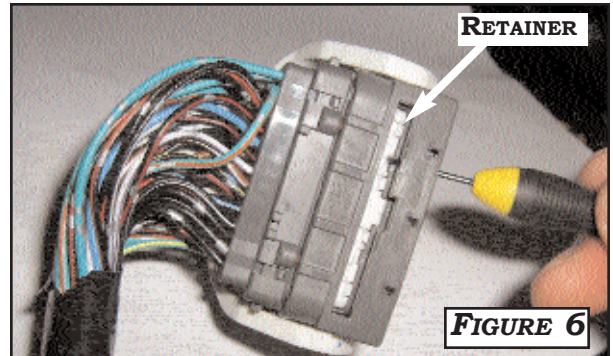

FIGURE 6
2. USE A PRECISION TOOL OR SMALL FLAT HEAD SCREW-DRIVER TO RELEASE THE RETAINER AT THE CENTER OF THE CONNECTOR. **FIGURE 6**